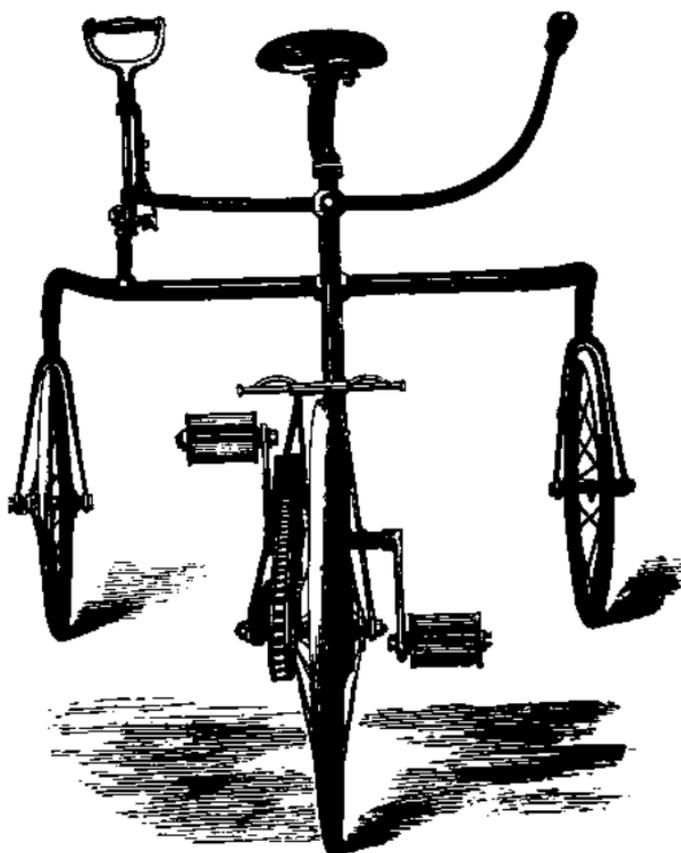

FIG. 12. THE TOM-TIT.
14. **The Tom-tit** (Starley and Sutton, Meteor Works, West Orchard, Coventry).—It will be at once seen from the illustration (Fig. 12, p. 86) that the Tom-tit is built on a unique plan and quite different from anything else in the way of a three-wheeler. It has no body, and is best described as a skeleton. The framework is very meagre; we do not speak in a depreciatory sense, but simplicity and the absence of all superfluous or merely ornamental additions are the ruling features. Three small wheels are used; the two side ones are but 18in. high and 35in. apart; the front